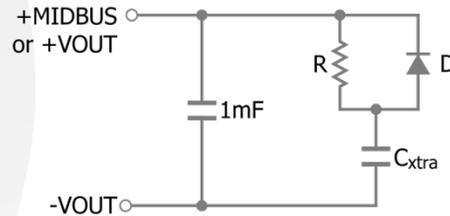

Figure 18: Series R || D network for capacitance at +MIDBUS or +VOUT in excess of 1 mF
- 3) +MIDBUS should *not* be connected directly in parallel between units. It is acceptable to share a single +MIDBUS holdup capacitor between multiple units by connecting multiple R||D elements (from Figure 18) with the configuration shown in Figure B on page 3. The recommended value of +MIDBUS capacitance should be placed locally at each unit.
Figure 17: Response to 50 ms line interruption; 60 Hz; 1250 W power drawn from +VOUT pin; 7.5 mF total capacitance placed at +MIDBUS with series R || D network as shown in Figure 18.
Capacitance in excess of the 1 mF maximum value requires an additional series R || D network for optimum stability, as shown in Figure 18. The diode must be rated for at least 300 V and a fast recovery type is recommended to improve forward recovery characteristics. The resistor must be adequately rated for pulse capability: a ceramic composition type is recommended. See Figure B on page 3 for suggested resistor and diode part numbers.
For capacitors between 1 mF and 10 mF, the resistor value shown in Figure 18 should be 4.7  $\Omega$ . Capacitors larger than 10 mF may be used, but it is possible to trip the “+MIDBUS Under-Voltage Shutdown” protection if +MIDBUS does not reach 50 V within 150 ms after it begins to ramp up. Increasing the resistor value to 10  $\Omega$  will circumvent this protection feature by causing the +MIDBUS voltage to quickly rise above 50 V due to the voltage drop across the resistor while in current limit. However, a 10  $\Omega$  value also increases the capacitor recharge time, affecting the ability to run through repetitive transients.